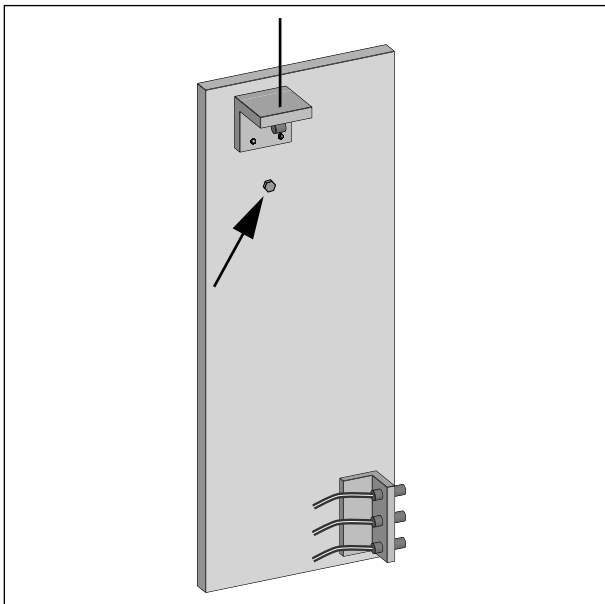

Figure 3-6. Screw securing the carriage for the snap-off distance switches during machine transport
- \* Remove the transportation guard screw from the support carriage of the snap-off distance switch (Figure 3-6). The carriage is located behind the left, front column (remove cover from carriage).